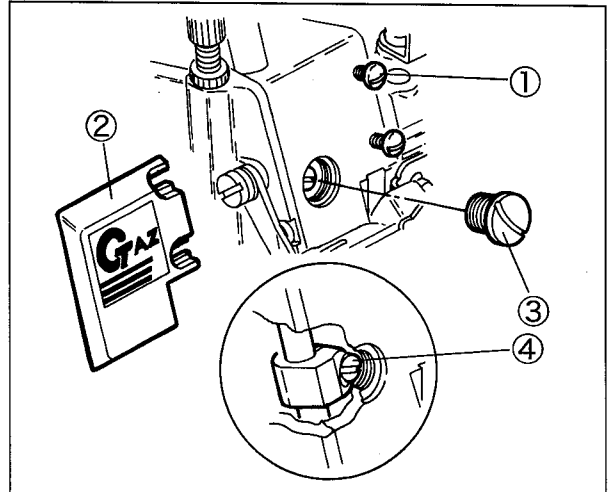

Fig. 53
- (1) Loosen the screws① and remove the logo plate ②. (Fig. 53)
- (2) Remove the screw③.
- (3) Raise the needle bar at the highest point while rotating the machine pulley.
- (4) Loosen the screw④ and adjust the needle bar while moving it up and down.